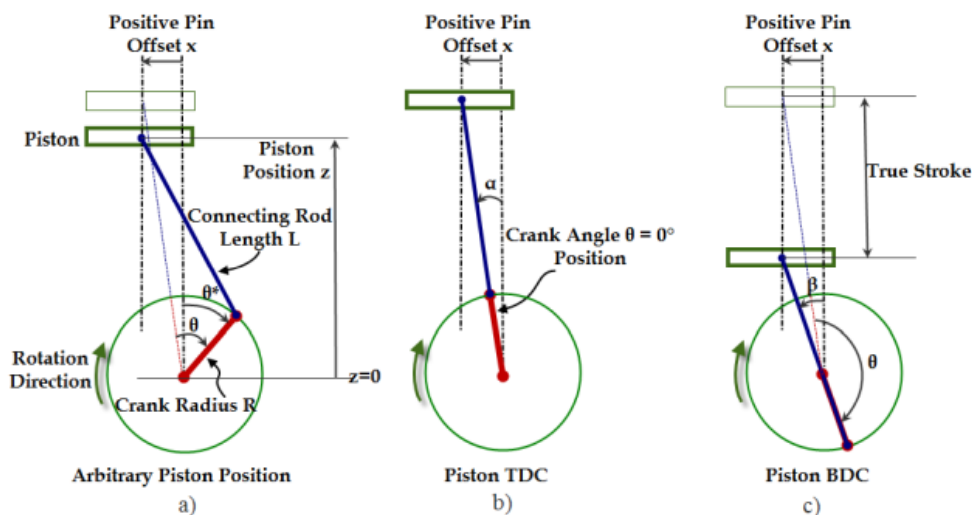

FIGURE 3.14: PISTON-PIN OFFSET DISTANCE
3. **Piston Offset**: It is a measurement used when the piston is not aligned vertically. See in **Figure 3.14: Piston-pin offset distance** , the distance  $x$  is the piston offset.